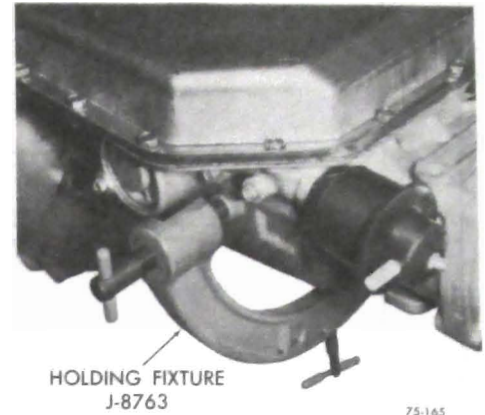

Figure 75-46
2. Place transmission on a CLEAN work bench and use CLEAN tools during disassembly. PROVIDE CLEAN STORAGE SPACE FOR PARTS AND UNITS REMOVED FROM TRANSMISSION. An excellent working arrangement is provided by assembling the transmission to Holding Fixture J-8763. See Figure 75-46.
1. Assemble transmission in Fixture J-8763. See Figure 75-46.
NOTE: Before assembling transmission in Holding Fixture J-8763 it must be modified so I-2 accumulator will clear fixture. Remove 3/8" from Fixture as shown in Figure 75-46.